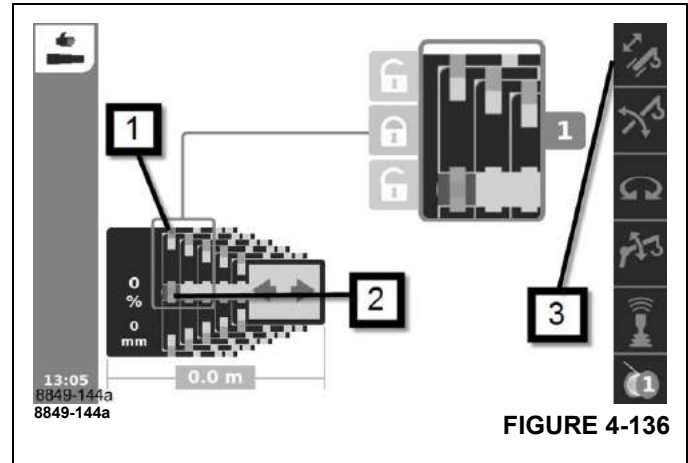

FIGURE 4-136
Telescoping mechanism on – symbol (3), (Figure 4-136) green